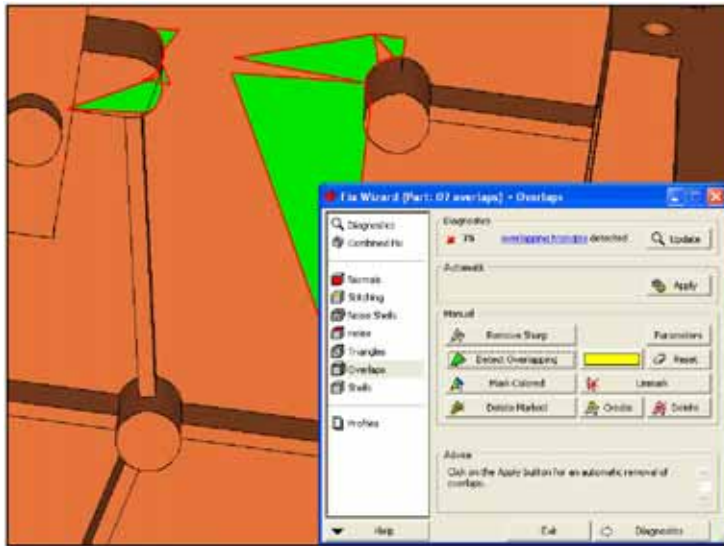

Figure 78: Model to fix - 07 overlaps.stl
- The model for this exercise is shown Figure 78.